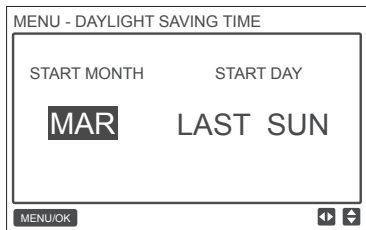

Fig. 57 — Setting the start time for daylight saving
**SET THE START TIME FOR DAYLIGHT SAVING** — Use the cursor to choose **START**, and press **MENU/OK** to enter this setting. Press the **LEFT**  or **RIGHT**  button to move the cursor, and press **TEMP UP**  or **TEMP DOWN**  to set the start time for daylight saving, as shown in Fig. 57